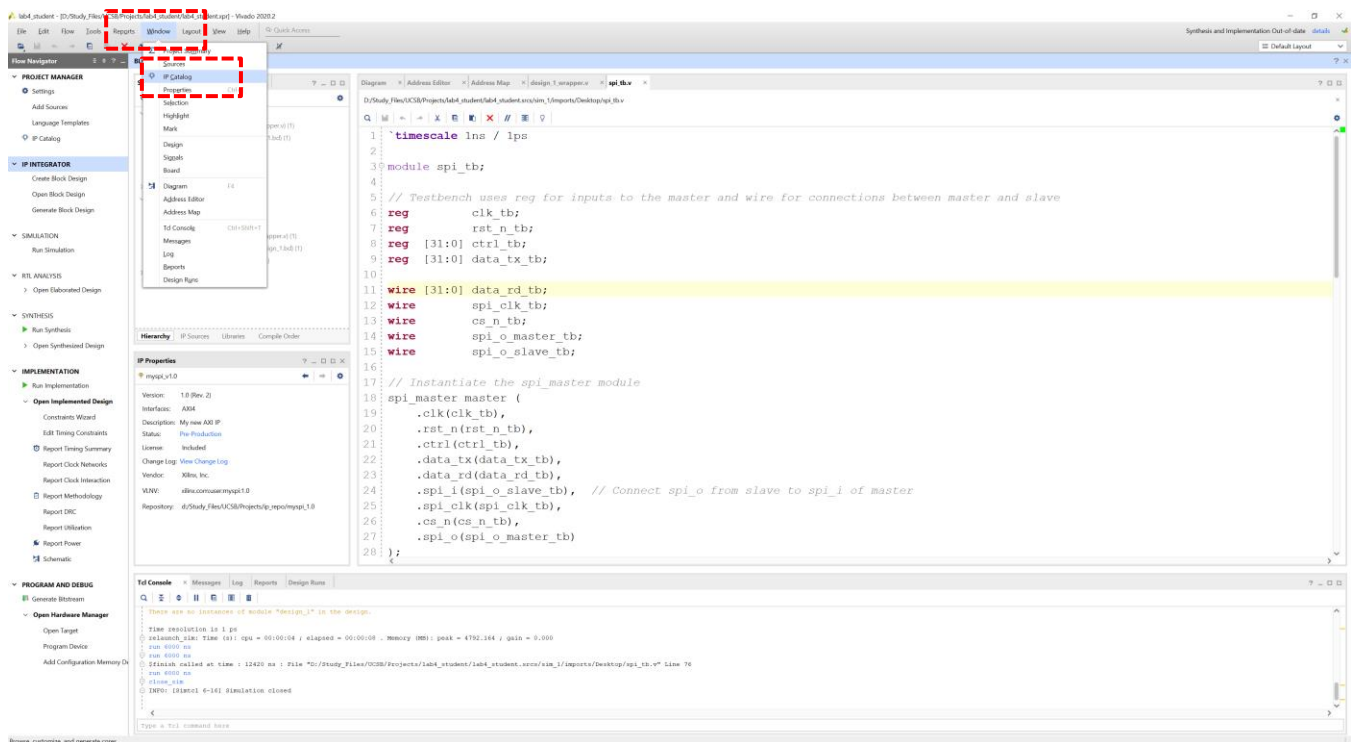
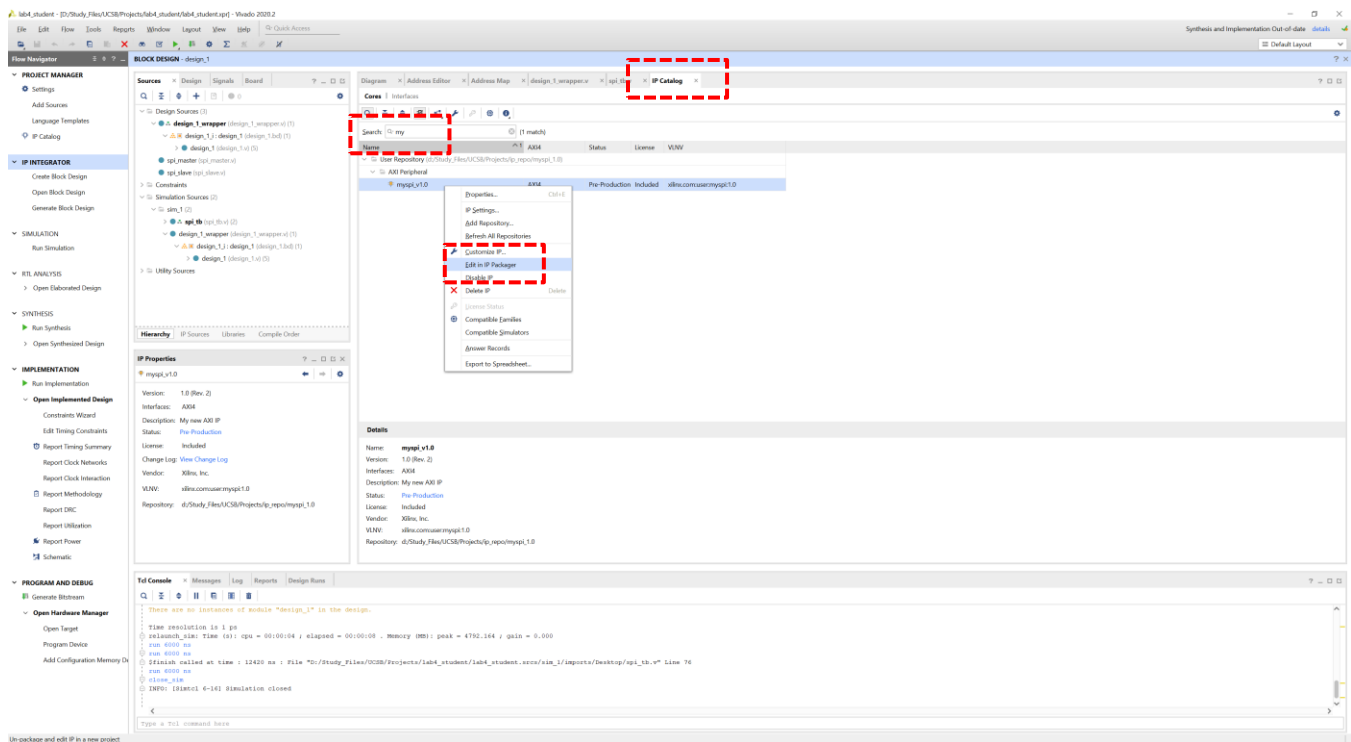

Figure 9: Open IP catalog tab.
Figure 10: Search and edit IP in IP packager.
- As in Figure 9, open “IP Catalog”. Search for mysipi, right click on the IP and select “Edit in IP Packager”, as in Figure 10. This will again open a new window as in part A.